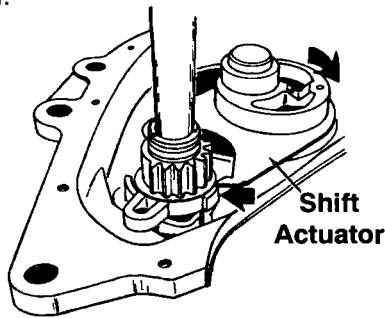
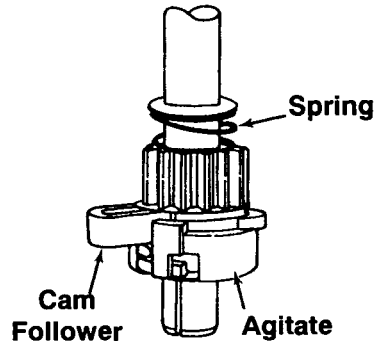
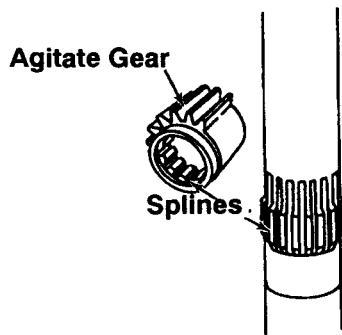

Fig. 28
Fig. 29
Fig. 30
- The main drive gear moves the shift actuator forward so that it engages the agitate cam (Fig. 28), and pushes it into the agitate position. (Fig. 29) The action of the agitate cam and cam follower allow the agitate gear to be forced down by spring action so that it engages the splines on the agitator shaft. (Figures 30 and 31) Now everything is set up for agitation.